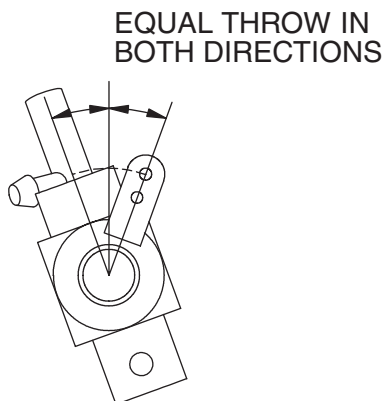

Figure H-7A
1. Install the carburetor to the engine as per the instructions supplied with the engine. The carburetor throttle arm should be on the left side of the engine as shown. Check that the arm has equal throw from center, as shown in Figure H-7A. If the arm rotates more in one direction, loosen the nut securing the arm and re-position the arm.